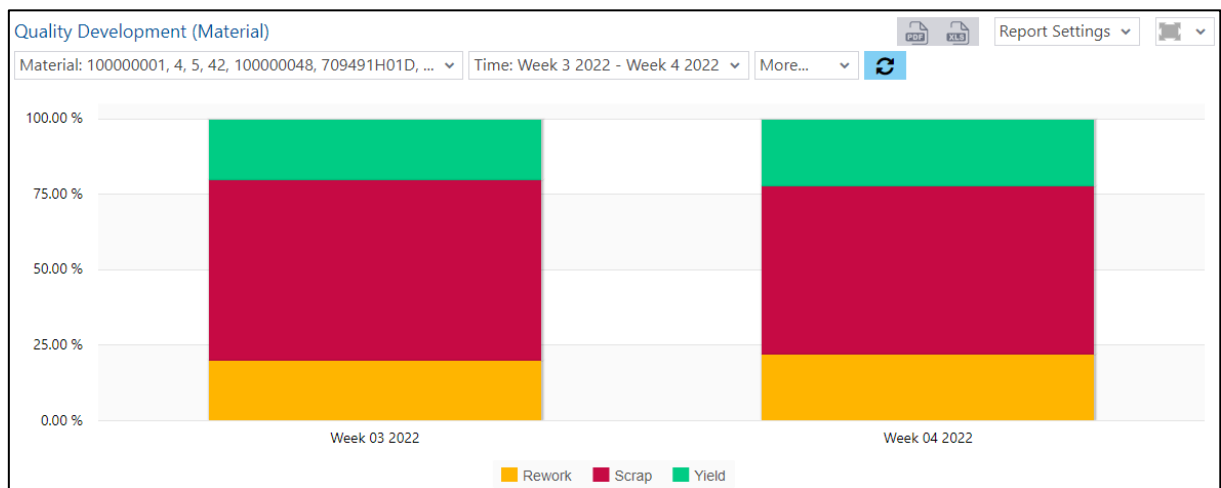

Fig. 119: Quality development (material) as a column chart
- Quality development (material) as a column chart (fig. 119):